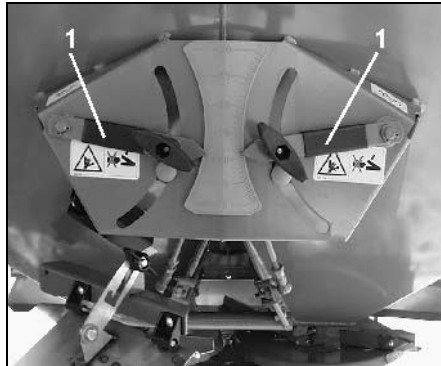

Fig. 60
- Set shutter slide position to „11” via the setting levers (Fig. 60/1).